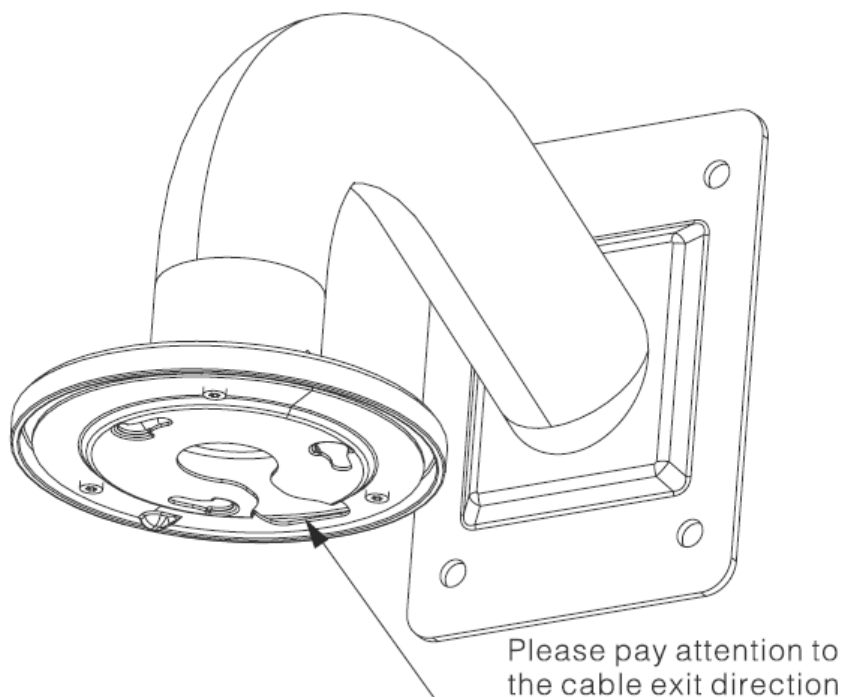

Figure 4-3
2). Connect the hanging mount to the internal thread of the wall mount bracket. Secure screws to the right side of the wall mount bracket to secure the hanging mount. **Please note this step is very important. Please make sure the screws are firm, otherwise, it may result in falling risk of the intelligent speed dome.** Use three self-captive screws to secure the sheet metal on the hanging mount. See Figure 4-3.